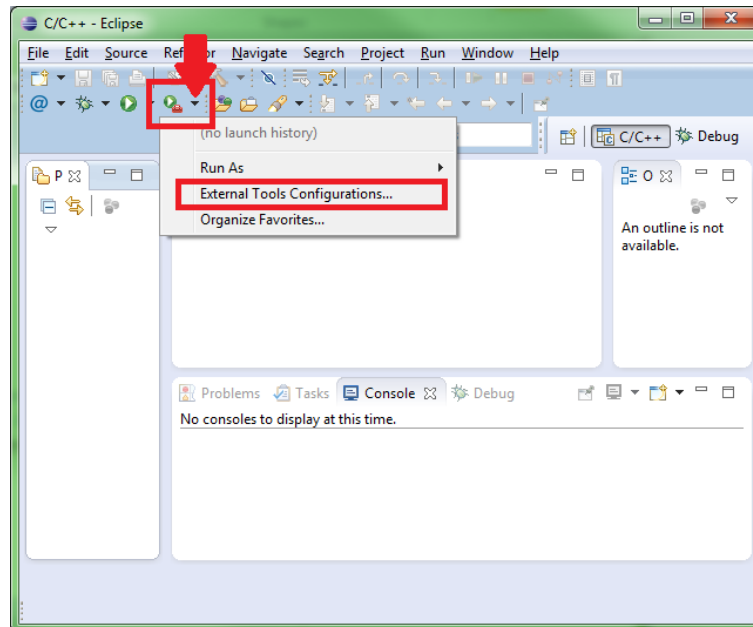

Figure 11 - Opening Eclipse external tools configuration window
3. Click the small down arrow next to the debug-tools  icon and choose 'External Tools Configurations ...' as shown in Figure 11.